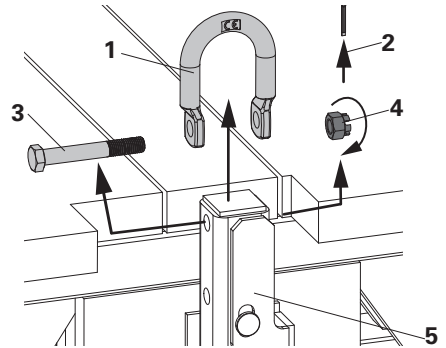

Fig. 17
3. Remove Crane D-Ring (1) in an upwards direction from the mounting position. (Fig. 17)